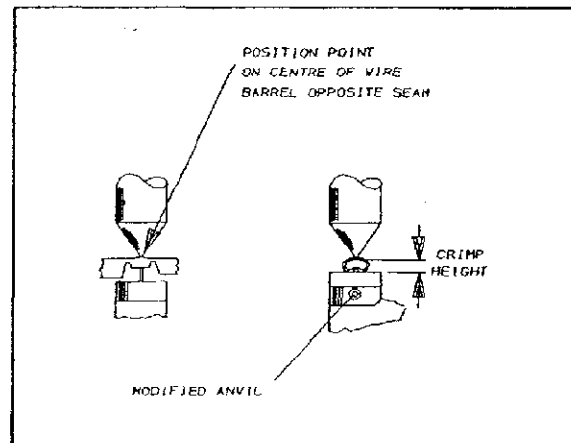

Fig. 2-2
This inspection requires the use of a micrometer with a modified anvil as shown in Figure 2-2. We recommend the modified micrometer [Crimp height comparator 2-576692-0] from:
3. Using a crimp height comparator measure wire barrel crimp height as shown in Figure 2-2. If the crimp height conforms to that shown in the APPLICATION SPEC, the tool is considered dimensionally correct. If not return the tool to AMP for evaluation and repair (see para 2-3 REPAIR)